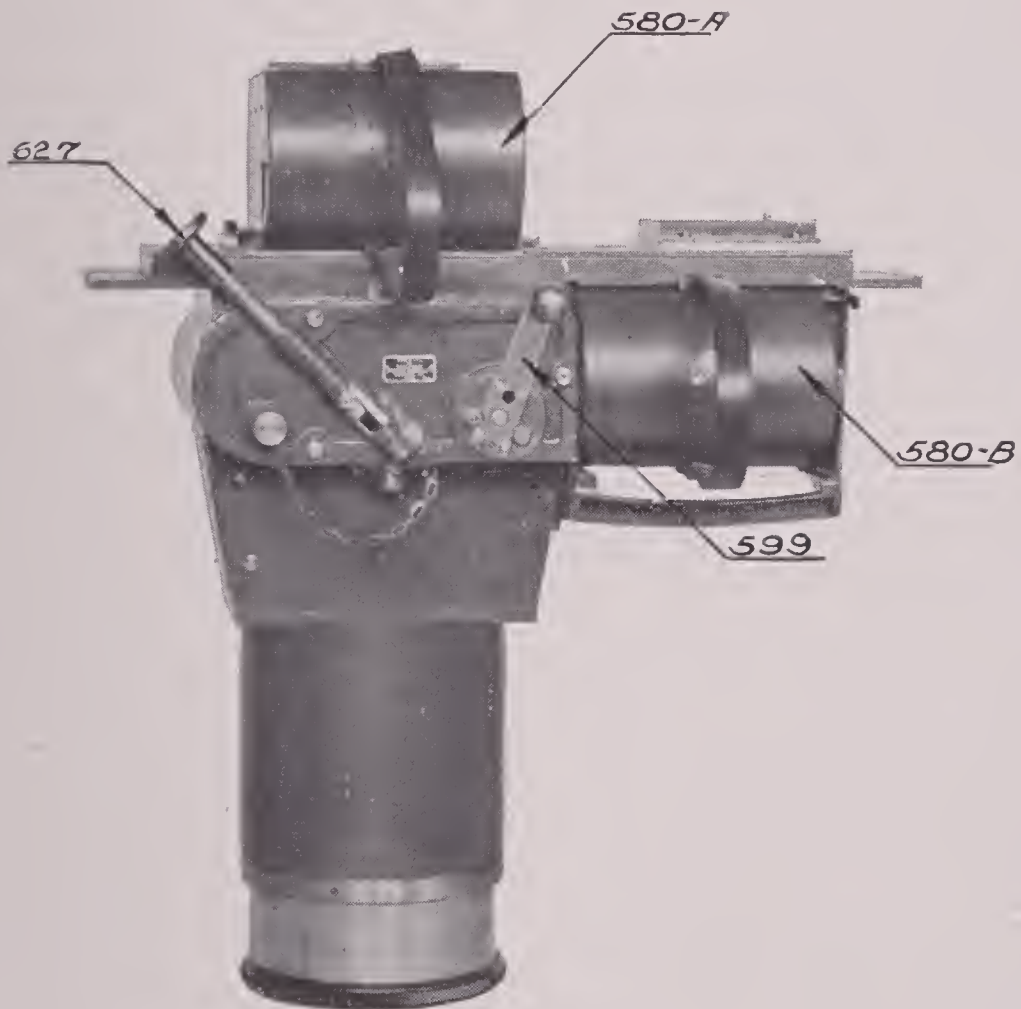

Figure 1
6. **Changing by hand Operation.** Fig. 1 shows a general view of the apparatus arranged for hand operation.